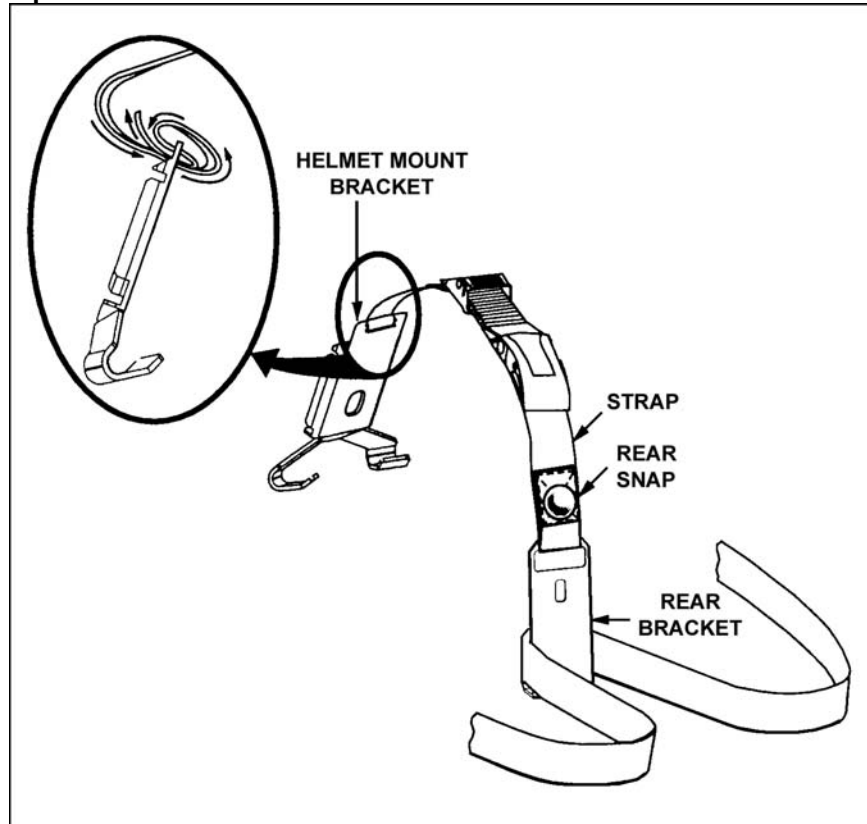

Figure 3. Lacing the helmet mount strap.
- (1) Press the release button. Remove the mount from the helmet mounting bracket.
- (2) Unlace the strap from the helmet mounting bracket.
- (3) Unsnap the rear snap and remove the rear bracket.
- (4) Lace the new helmet mount strap onto the helmet mounting bracket (Figure 3).